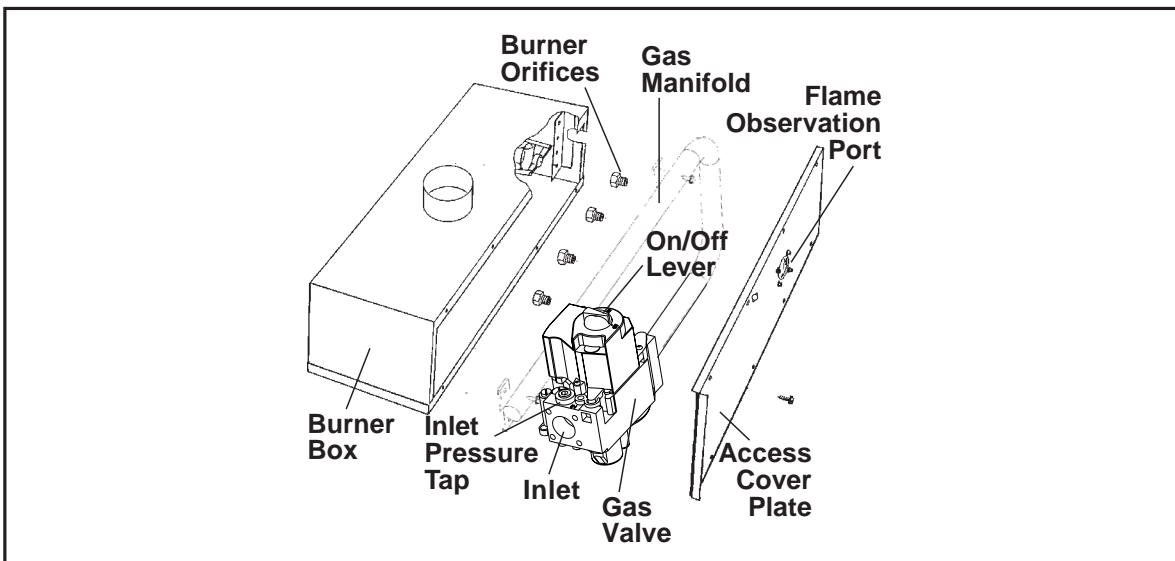

Figure 2. Typical Sealed Burner Box With Access Cover Plate
5. If present, disconnect the rubber pressure tubes from the gas valve and the burner box. Note: pressure tubes are present only in units with a sealed burner box, which is shown in Figure 2.
6. If present, remove the burner access cover plate from the burner box. Note: the burner access cover plate is present only in units with a sealed burner box, which is shown in Figure 2.
5. Reconnect the rubber pressure tubes to the gas valve and the burner box. Reinstall the burner access cover plate. Note that this step is only for the sealed burner box, shown in Figure 2.